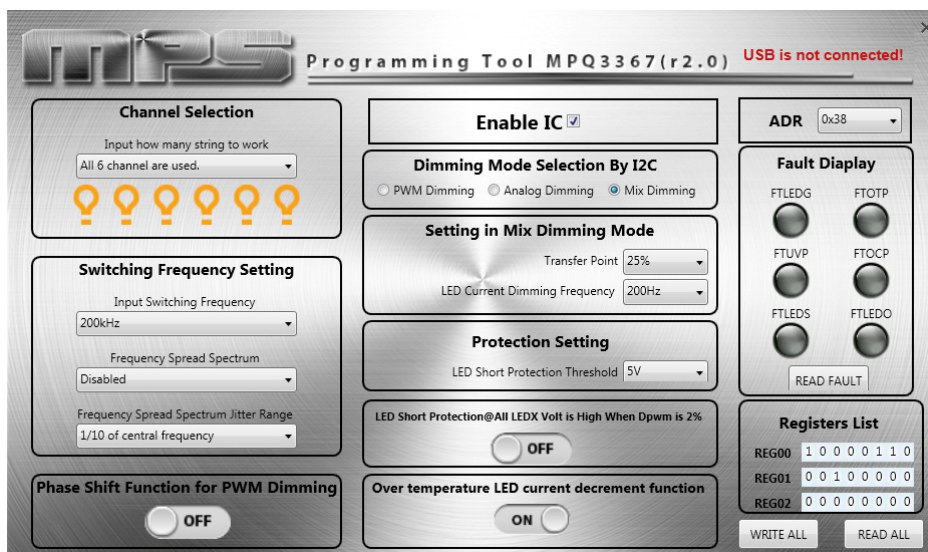

Figure 1: Unsuccessful Connection
- If the text “USB is not connected!” appears on the GUI, this means that the I2C kit cannot communicate with the computer (see Figure 1).